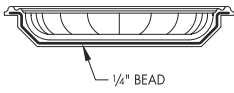

FIGURE 1
1. Apply a 1/4" bead of polyurethane construction adhesive along the bottom edge of the Niche tub (**SEE FIGURE 1**).